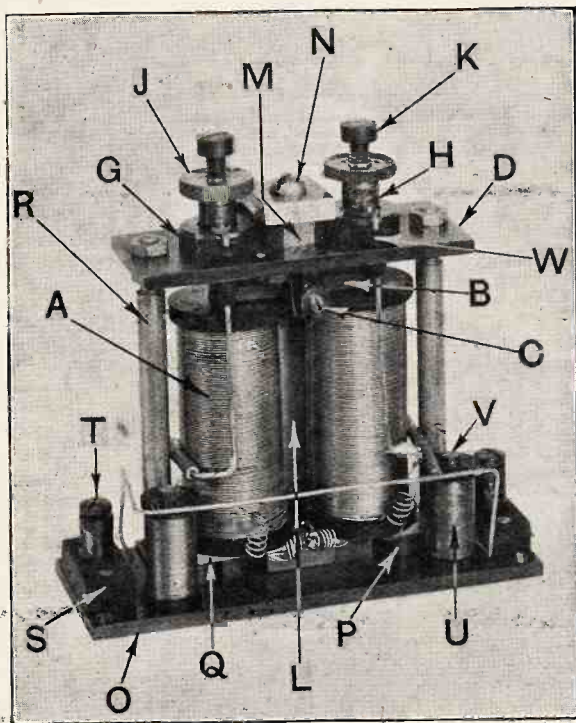

Fig. 1. The complete buzzer.
The photograph, Fig. 1, shows the complete instrument which in this particular case has been built up by employing some of the parts of an electric bell of the magneto type ; these will no doubt be familiar to most readers, as they are fitted with two gongs and are used by the Post Office in the standard telephone system. The original windings were removed and the bobbins subsequently wound differentially with No. 26 D.S.C. copper wire. Prior to
bobbins with two inner ends and two outer ends each, together with their iron cores are constructed. The back bar (Q) is modified somewhat as regards shape at the ends, as in the standard instruments these are provided at one end with a hole and at the other with a slot for fixing to the instrument box; these holes and slots are cut away, leaving a plain straight back bar with the uprights marked R in Figs. 1 and 2.